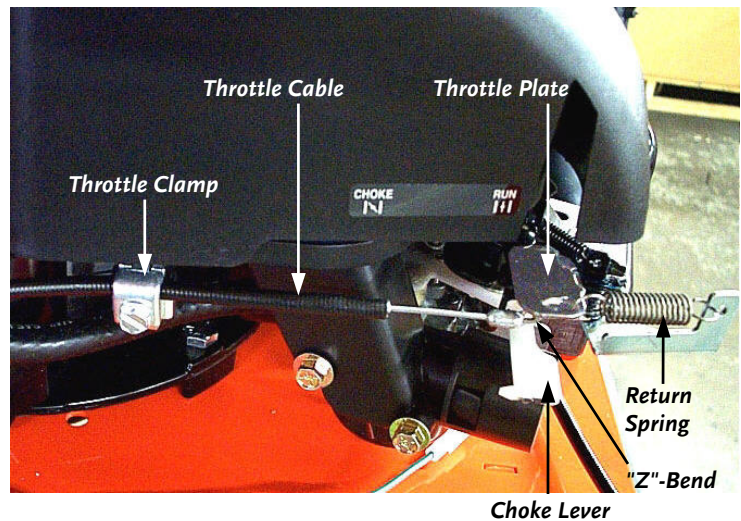

Figure 24
1. Loosen the Screw on the Throttle Cable Clamp (Bowden clamp) with the Wrench or Socket so the Throttle Cable can slide below it. It is not necessary to remove the Clamp (**Figure 24**).
7. Place the Z-Bend end of the Throttle Cable into the small hole on the Throttle Plate on the Engine. The Throttle Plate is a black Tab that protrudes from the Engine below the plastic Air Filter Cover and above the white Choke Lever. It has two (2) holes, and the Cable goes into the smaller hole. Place the Throttle Cable Sheath under the Cable Clamp (**Figure 24** on page 29).
9. Make sure to attach the Return Spring from the zinc-plated Bracket to the black Throttle Plate. It attaches to the larger of the two (2) holes on the Throttle Plate.